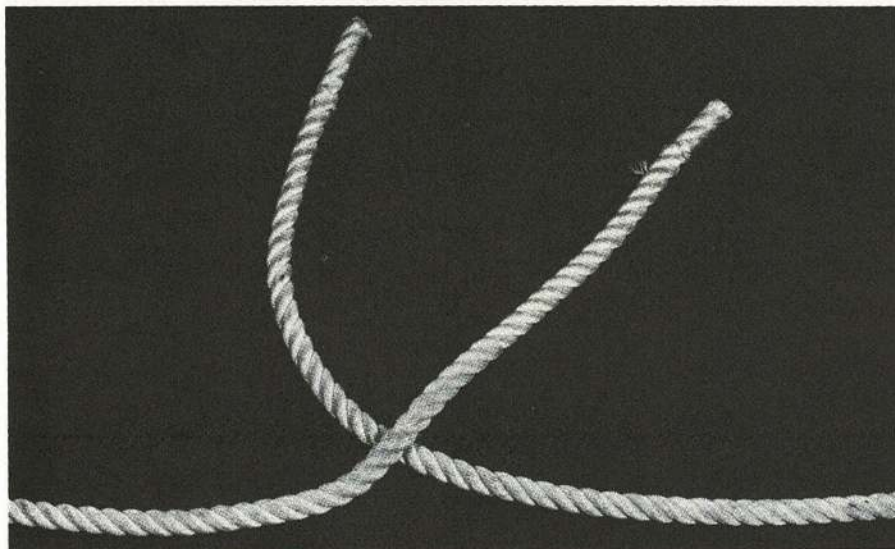
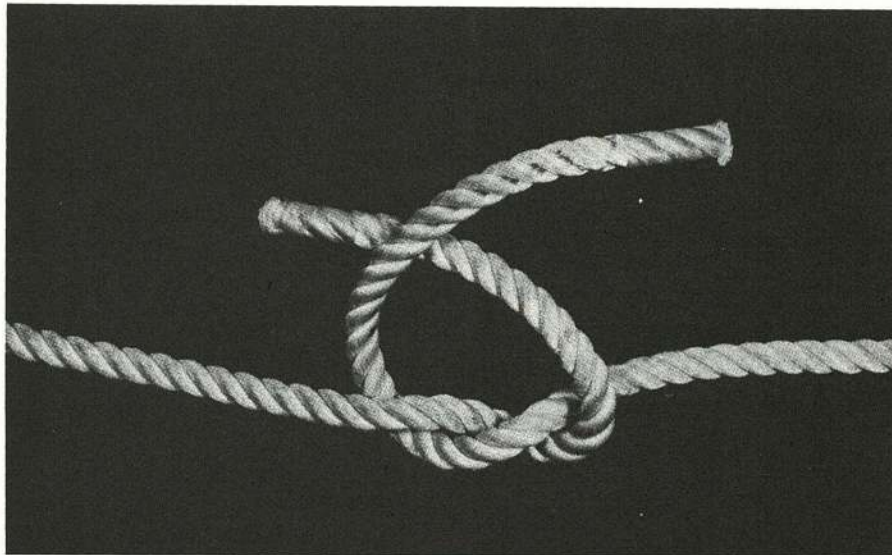

Fig 21A Left over right.
Fig 21G But beware — left over right then left over right again . . .
19. The reef knot is a simple knot tied left-over-right and then right-over-left, Fig 21A-E. But beware, if the two sides of the reef knot do not correspond exactly it becomes the dangerous granny knot which will not hold. Fig 21G-H. The reef knot should be used to join two ropes, or the two ends of one rope, only when the knot lies on a flat surface. It is used mostly for: